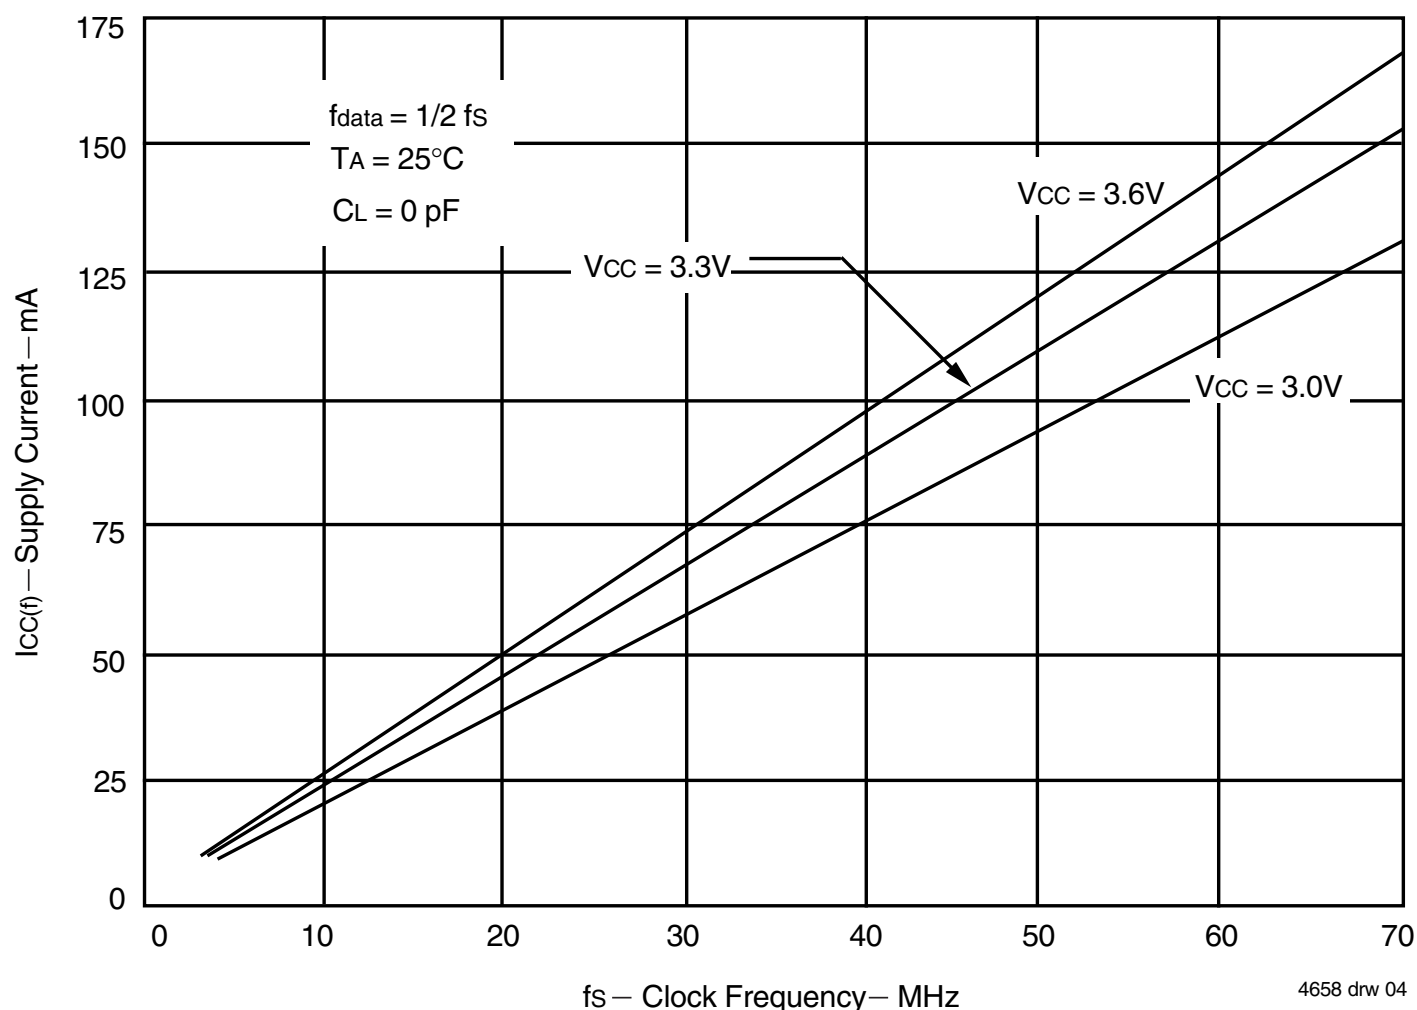

Figure 1. Typical Characteristics: Supply Current (I_{CC}) vs. Clock Frequency (f_s)
- For additional I_{CC} information, see Figure 1, *Typical Characteristics: Supply Current (I_{CC}) vs. Clock Frequency (f_s)*.
The $I_{CC}(f)$ current for the graph in Figure 1 was taken while simultaneously reading and writing the FIFO on the 72V3641 with CLKA and CLKB set to f_s . All data inputs and data outputs change state during each clock cycle to consume the highest supply current. Data outputs were disconnected to normalize the graph to a zero-capacitance load. Once the capacitance load per data-output channel and the number of 72V3631/72V3641 inputs driven by TTL HIGH levels are known, the power dissipation can be calculated with the equation below.
With $I_{CC}(f)$ taken from Figure 1, the maximum power dissipation (PT) of these FIFOs may be calculated by: